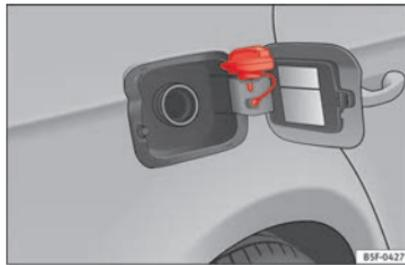

Fig. 58 Fuel tank flap with tank cap attached.
- Place it in the space on the hinge of the open flap »» **Fig. 58.**